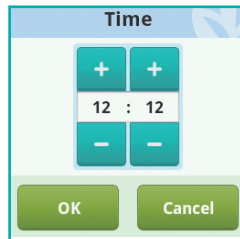

Figure 15
b) Choose the Time setting to open a dialog box (Figure 15) that can be used to input the time. Use the "+" and "-" buttons to select the time, choose OK to save and exit or Cancel to exit without saving.